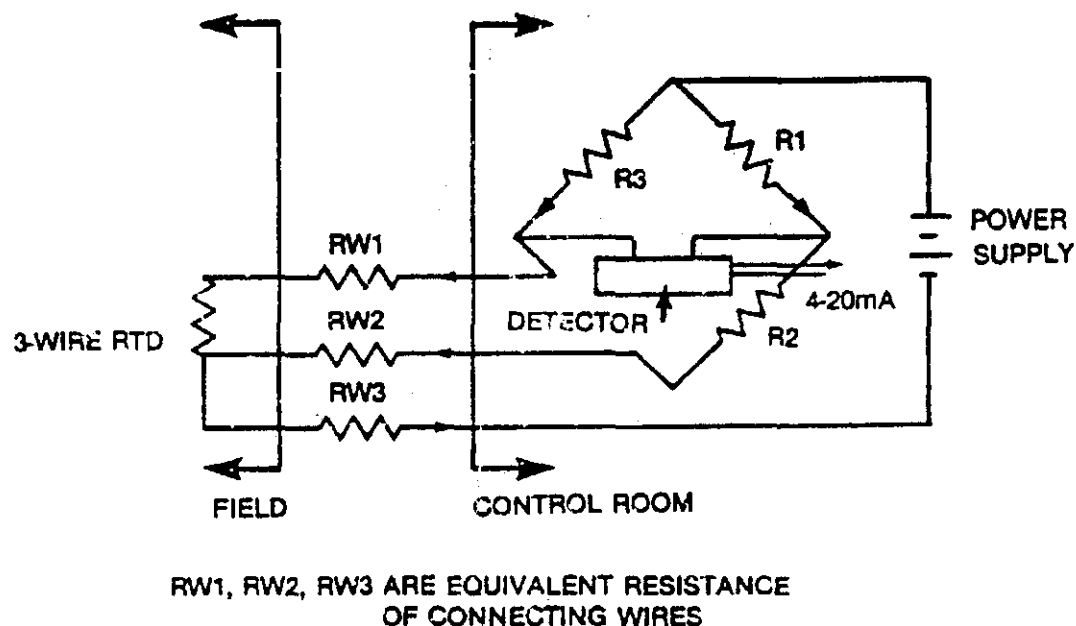

Figure 8: Three Wired RTD.
- From Figure 8, it can be seen that the resistances of the wires cancel and therefore the effect of the connecting wires is eliminated.